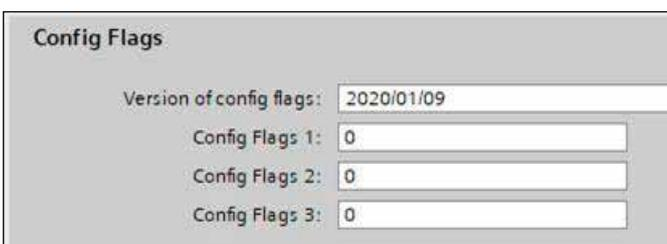

Fig. 69: Config Flags – linear profile
- **Ignoring offsets configured in the project:** You can use the “Config Flags 1” entry to set whether the sensor should accept or ignore the offsets transmitted by the controller when establishing the connection. You can adjust this in the module parameters of the sensor in the “Config Flags” section (Fig. 69). You can set the following values for bit 1 of the “Config Flags 1” entry: